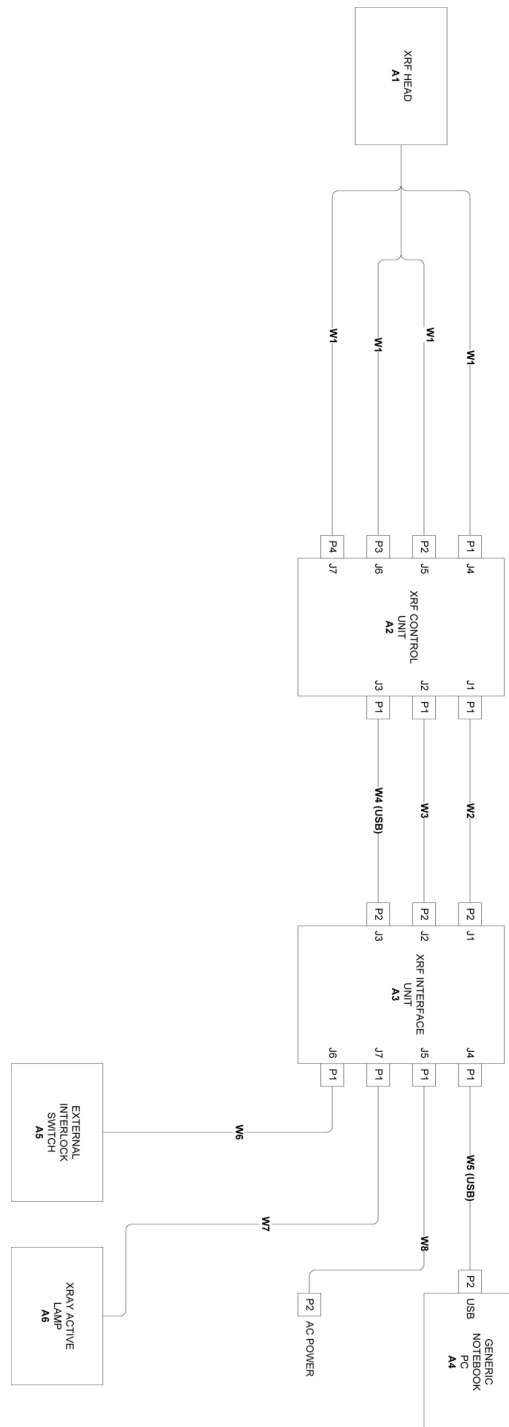

Figure 3. Connection diagrams for **Interface**, **Control**, and **Head** units of the XRF spectrometer.
2. Connect the cables as shown in Figure 3. All cables must be connected before turning on the main power.